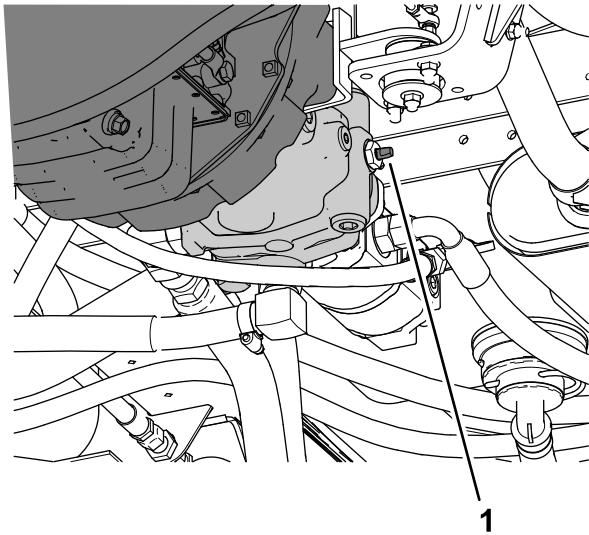

Figure 55
3. Rotate the tow valve (Figure 55) 90° in either direction to open the tow valve.